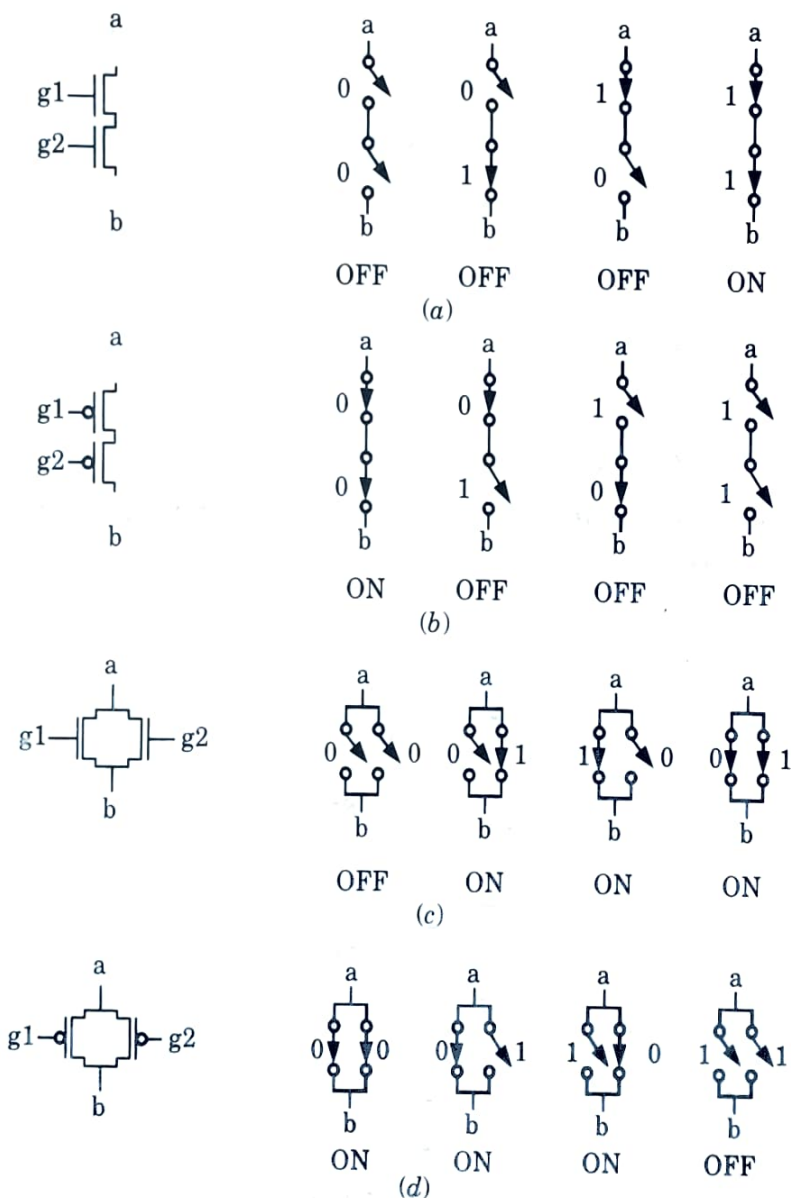

Fig. 1.15.2. Connection and behaviour of series and parallel transistors.
4. Two or more transistors in series are ON only if all of the series transistors are ON. Two or more transistors in parallel are ON if any of the parallel transistors are ON. This is shown Fig. 1.15.2 for nMOS and pMOS transistor pairs.